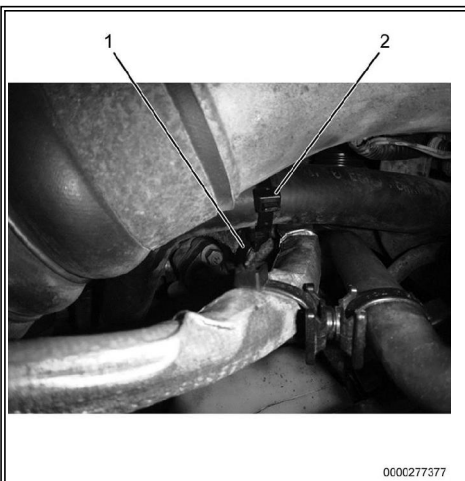

Figure 20: Deaeration Tank Hose.
1. Pull deaeration tank hose (Figure 20, Item 1) towards deaeration tank until it clears turbocharger oil supply tube.
2. Using two tie straps (Figure 20, Item 2), and a swivel saddle, secure deaeration tank hose to oil centrifuge supply line.